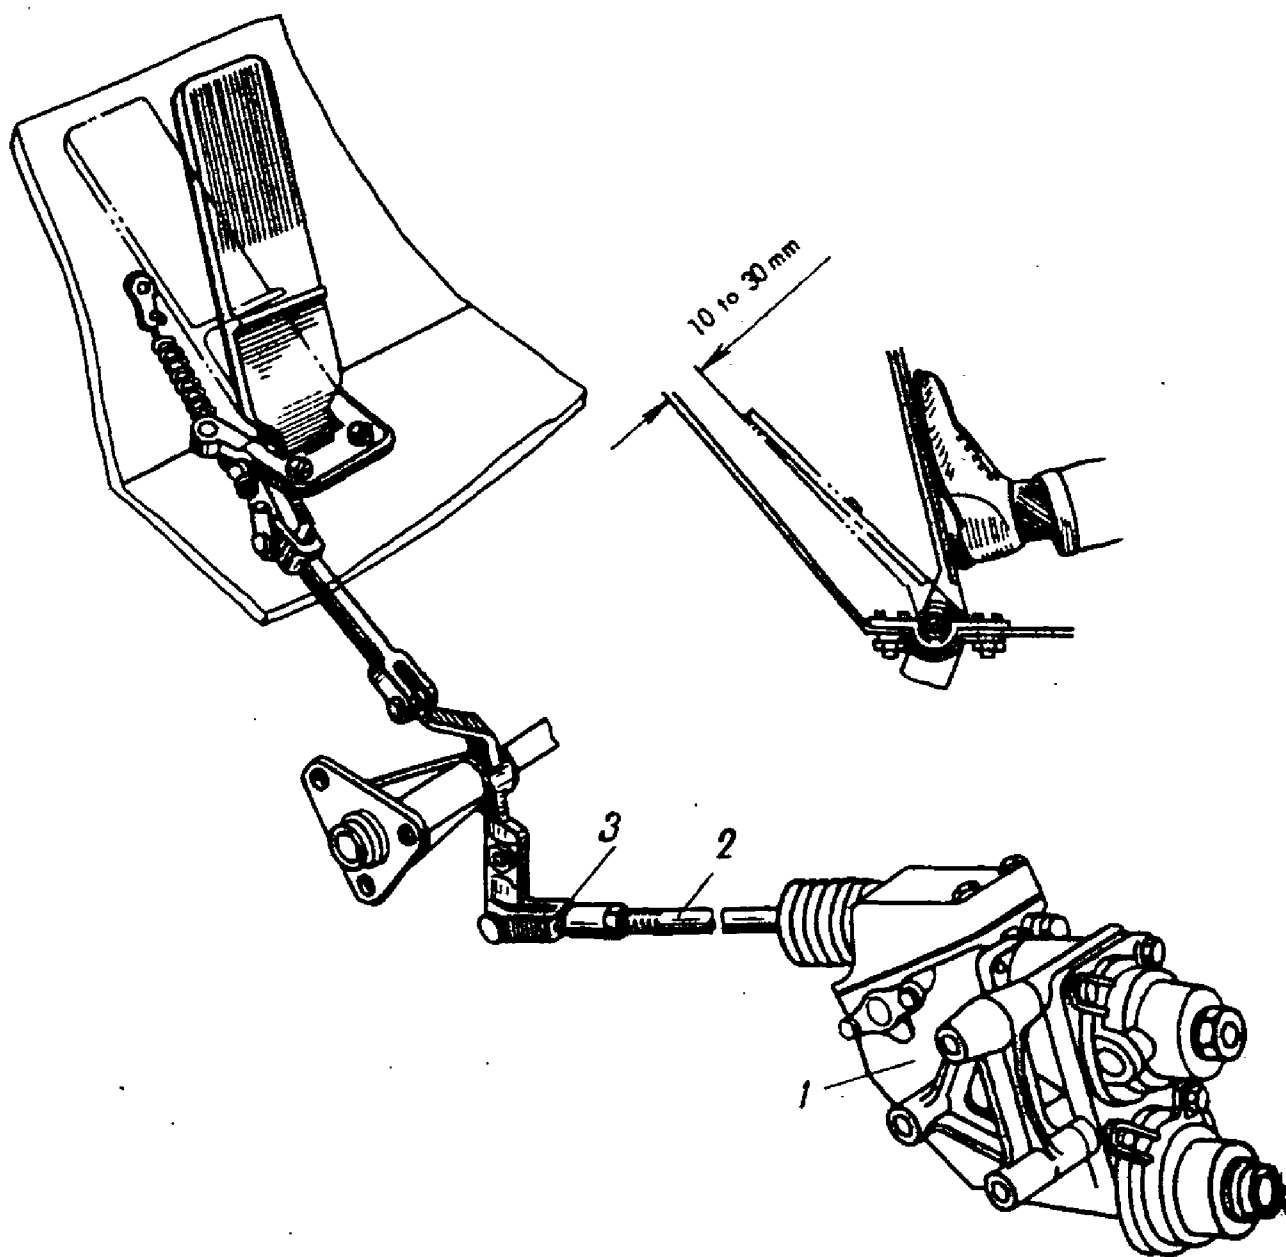

FIG.16. METHOD OF ADJUSTMENT OF WHEEL AIR BRAKE LINKAGE
36. Check and adjust, if needed, the travel of the brake pedal. If, when completely depressed, the pedal strikes against the floor, adjust the length of rod 2 (Fig.16).